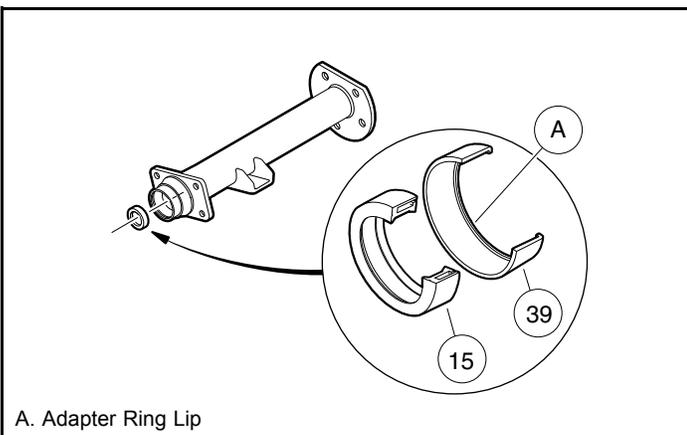

Figure 28-3 Axle Seal and Adapter Ring
- 6.2. Use a press to separate the axle oil seal (15) from the adapter ring (39) (Figure 28-3, Page 28-2). Retain the adapter ring and discard the oil seal.
- 1.1. Clean seal seat in the adapter ring (39) (**Figure 28-3, Page 28-2**).
- 1.2. Place a new seal (15) in the adapter ring with the seal lip facing toward the adapter ring lip (**Figure 28-3, Page 28-2**). Use an axle seal tool (CCI P/N 1014162) and mallet to tap it in until it seats firmly in position (**Figure 28-3, Page 28-2**). A hydraulic press may also be used with the axle seal tool.